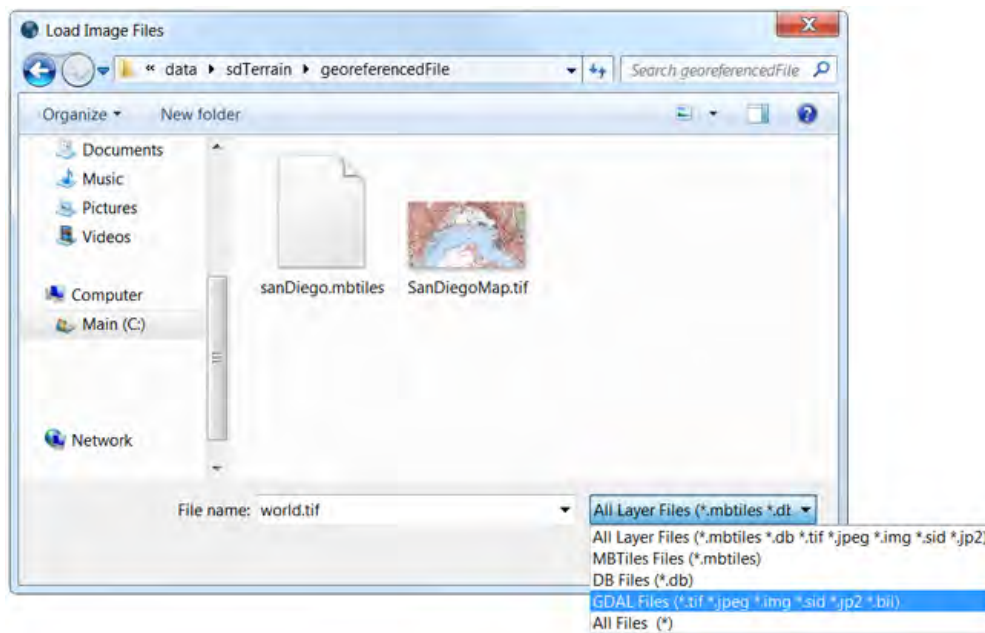

Figure 5.29: Select GDAL Files
2. Load the file **sanFrancisco.mbtiles** same as in Figure 5.29.